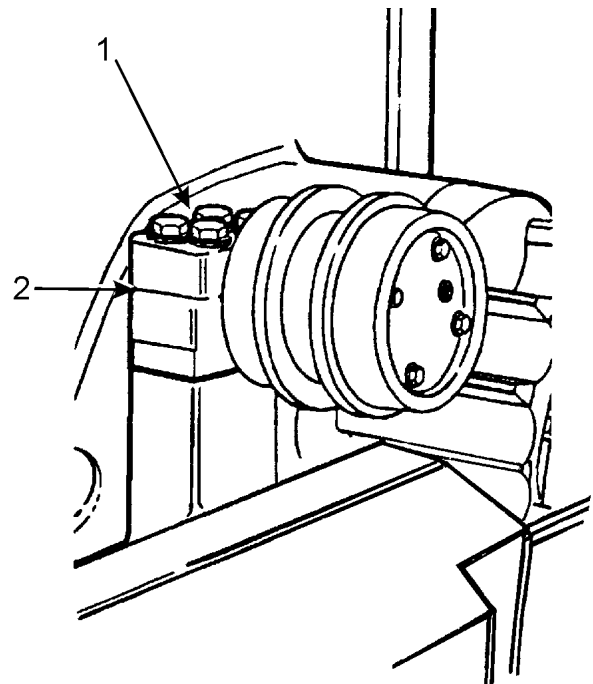

Fig. 14.19. Top Idler
The upper section of the track between the sprocket and the front idler is supported by two idlers. The idlers are mounted on brackets which are part of the track frame. The track idlers revolve on heat-treated replaceable steel shafts, which are secured to the track frame brackets with a bolts (1, Fig. 14.19). The idlers are sealed against the entrance of dirt, water and the loss of lubricant by a seal and O-rings.
3. Loosen all bolts (1, Fig. 14.19) securing block (2) and spread blocks with a chisel. Pull the idler from the block.